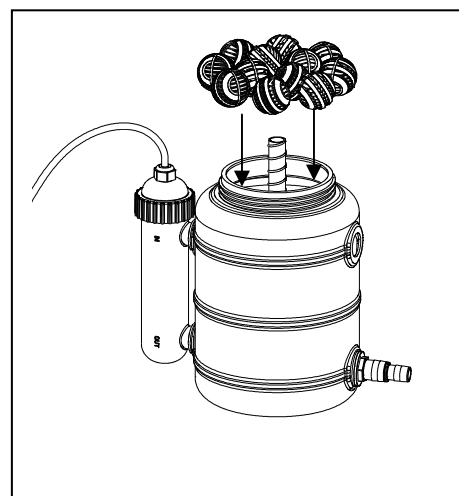

Fig. 2
2. Place the bio-balls inside the filter. Fig. 2